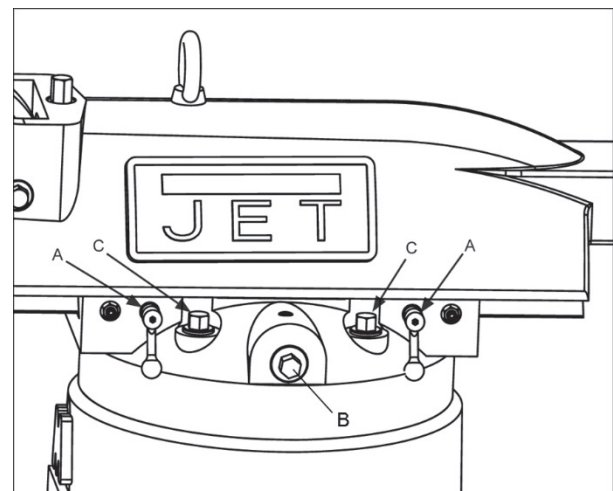

Figure 19 (JTM-949EVS/230 shown)
1. Loosen two handles (A, Figure 19) that lock the ram to its ways. [Hex nuts on JTM-1050EVS models.]
- Turn ram pinion (B, Figure 19) with a wrench to slide ram on its ways.
- When desired position is reached, tighten handles (A, Figure 19)[or hex nuts] securely.
- Loosen four turret lock bolts (C, Figure 19) that clamp the ram to the top of the base. 1/2 turn should be sufficient to allow turret to move.
- Tighten four turret lock bolts (C, Figure 19). Tighten in two steps using a calibrated torque wrench. Use a crossing pattern to tighten the nuts. Tighten initially to 25 foot-pounds, then tighten to a final torque of 50 foot-pounds.